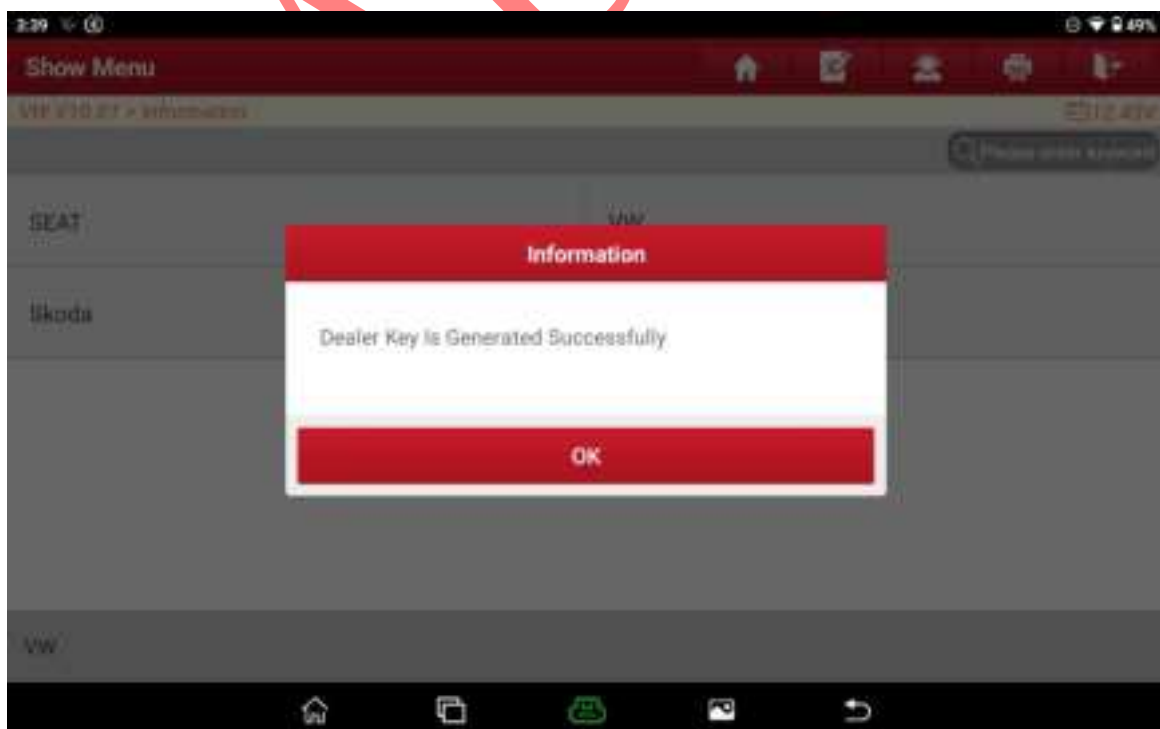

Figure 27
26. The dealer key is successfully generated. Select OK, as shown in Figure 27.